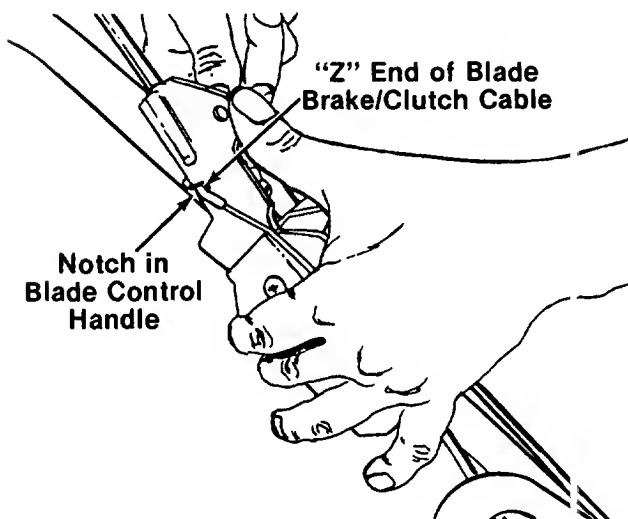

FIGURE 7.
- a. Hook the "Z" end of the cable into notch provided in the blade control handle. See figure 7.